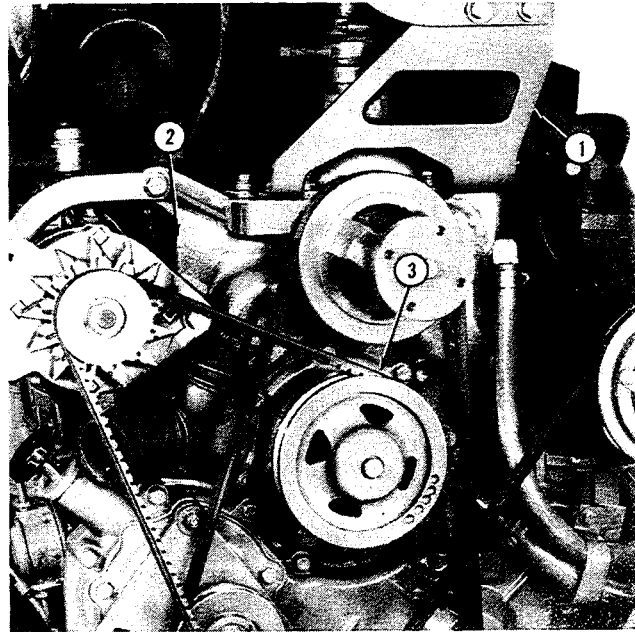

Figure 9
3. Remove the support bracket, fan and alternator bracket and water pump as required, Figure 9. Remove the water hoses.